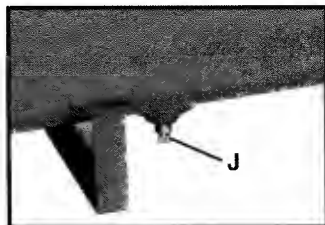

Fig. 4
Drain Valve (J) Fig. 4: The drain valve is located at the base of the air tank and is used to drain condensation at the end of each use.